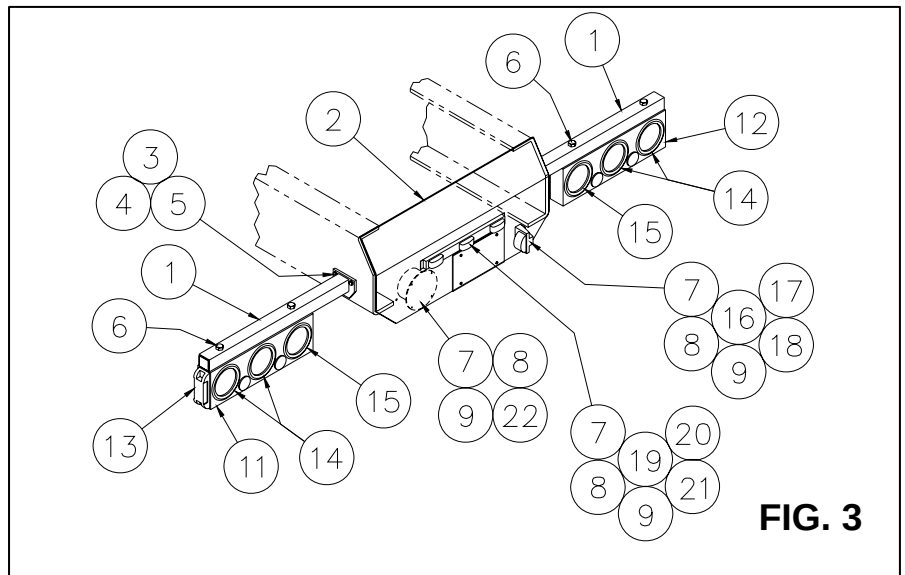

FIG. 3
6. Mount the identification light bar at top center of the center plate [Part No. 63H08] using the fasteners provided (See Fig. 3).
7. Mount license lamp right of the license plate (See Fig. 2) using the fasteners provided (See Fig. 3).
8. Mount junction box on the back left side of center plate (See Fig. 2), using the fasteners provided (See Fig. 3).
5. Install the roller [Part No. 10H12] between the brackets with the roller axle [Part No. 10H31] and the fasteners provided (See Fig. 3). Grease the rollers before use.